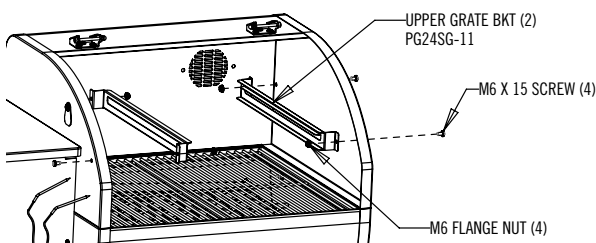

FIG. 7
1. Install the bracket as shown in Fig 7.